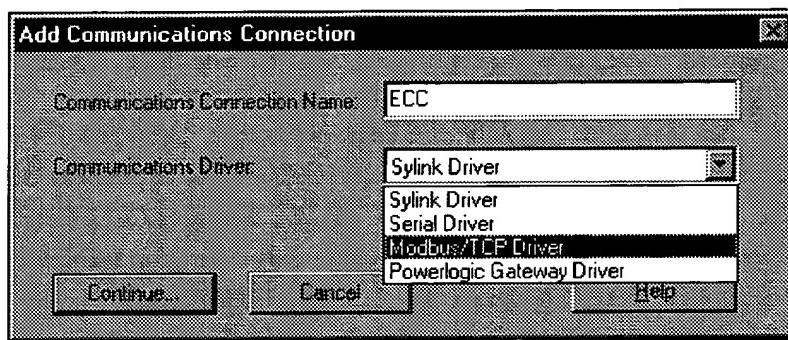

Figure A-1 Select MODBUS/TCP Driver in the Add Communications Connection dialog box
3. In the Setup Communications Connection dialog box click Add. SMS displays the Add Communications Connection dialog box (Figure A-1).